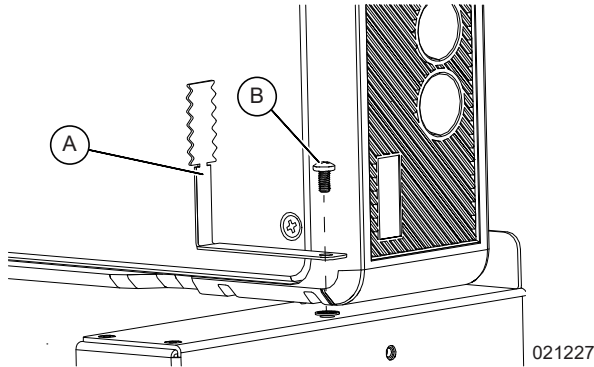

Figure 4-14. Installing Bottom Grounding Tabs (1 of 2)
1. See Figure 4-14. Install two L-shaped grounding tabs (A) at the bottom of the module on both sides.